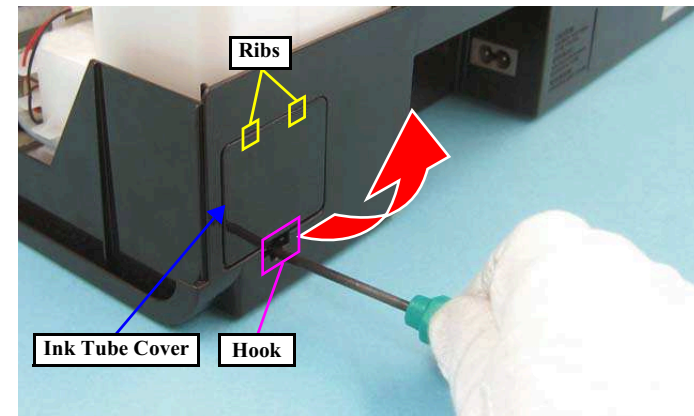

Figure 4-37. Removing the Ink Tube Cover
- Secure the Ink Tube Cover with the hook after inserting the two ribs shown in Fig.4-37 (p.69).